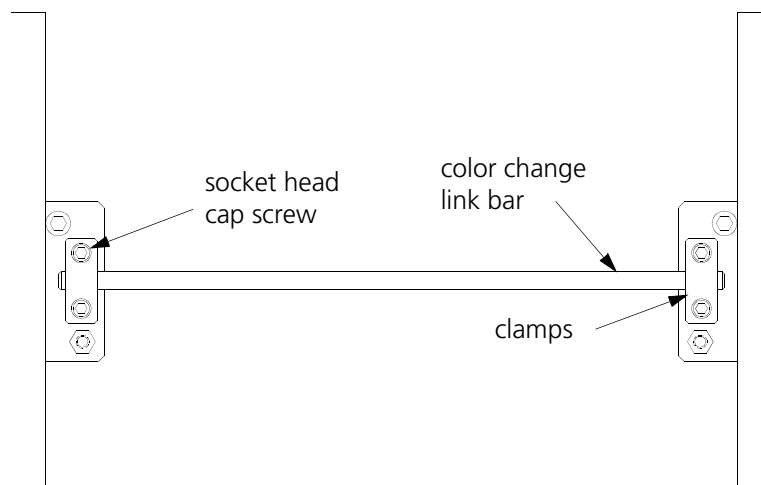

Figure 3-30
2. Refer to Figure 3-30 to loosen the clamps holding the color change link bars on either side of the needle case. Remove the link bars from both sides of the needle case.
2. With the needle case in place attach the color change link bars (refer to Figure 3-30). Tighten the top socket head cap screws on the bar clamps but do not fully torque them down. (Note that the lower cap screw holds the clamp to the needle case; the upper cap screw clamps the link bar.)